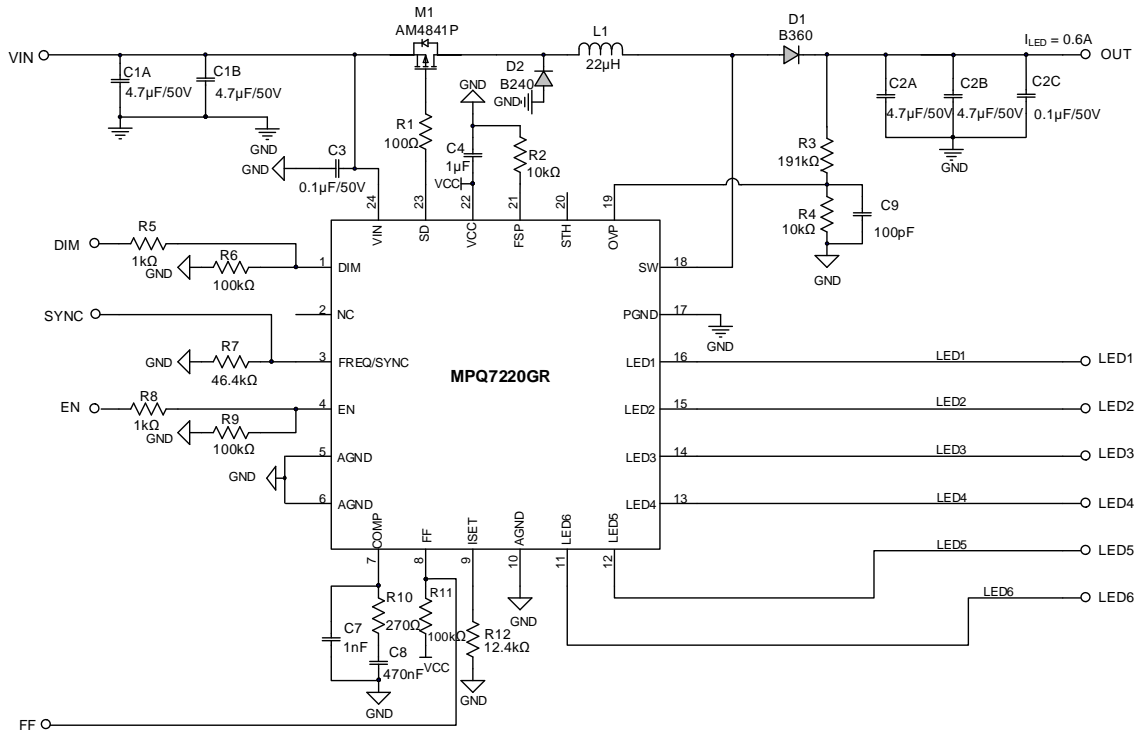

Figure 3: $I_{SET} = 100mA$, $f_{sw} = 470kHz$, Application Circuit for QFN-24 Package
The voltage divider sets the over-voltage protection (OVP) point (see Figure 3). Calculate V_{OVP} with Equation (4):